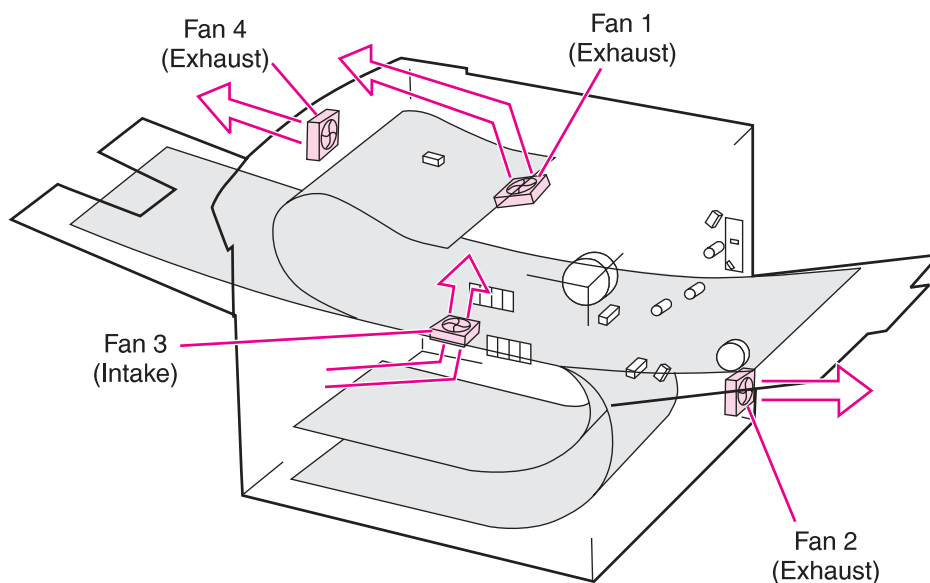

Figure 7-3 Fan Location and Airflow
3. Are the printer's fans on? (See figure 7-3 on page 389 to locate the fans.)	<p>Note: Fan operation is significant since all fans are controlled by the printer's DC Controller PCA. When the printer is in power save mode, the fans are off. Make sure that the printer is not in power save mode. Press Go. Operational fans indicate:</p> <ol style="list-style-type: none">1. AC power is present in the printer.2. DC power supply is functional (both 24V DC and 5V DC are being generated).3. DC Controller PCA's micro-processor is functional.